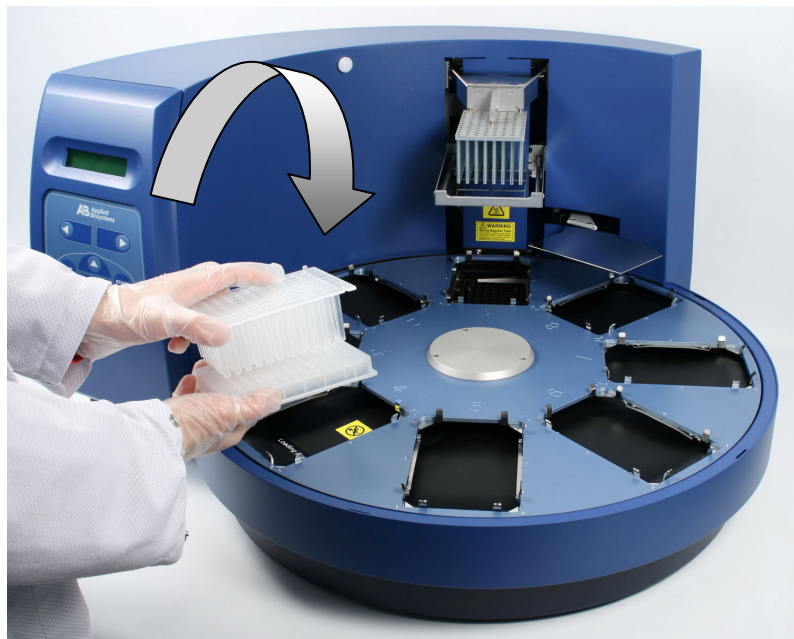
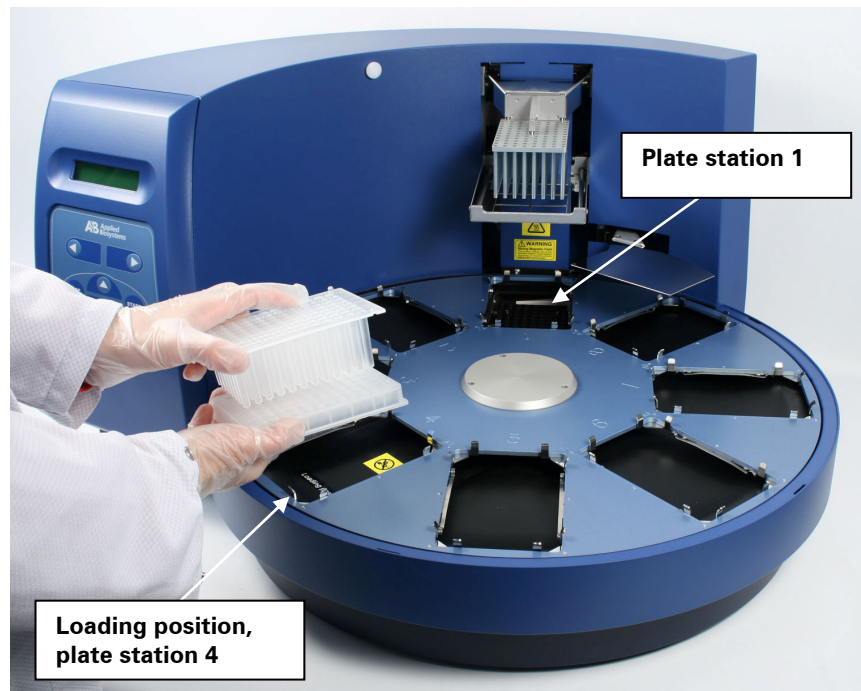
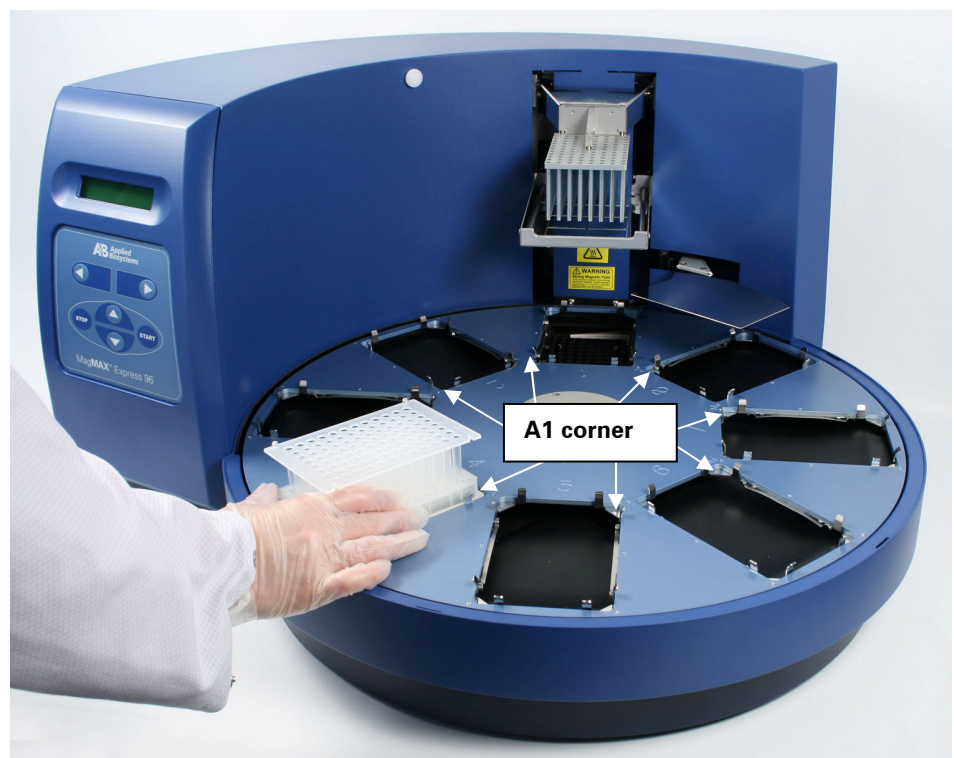
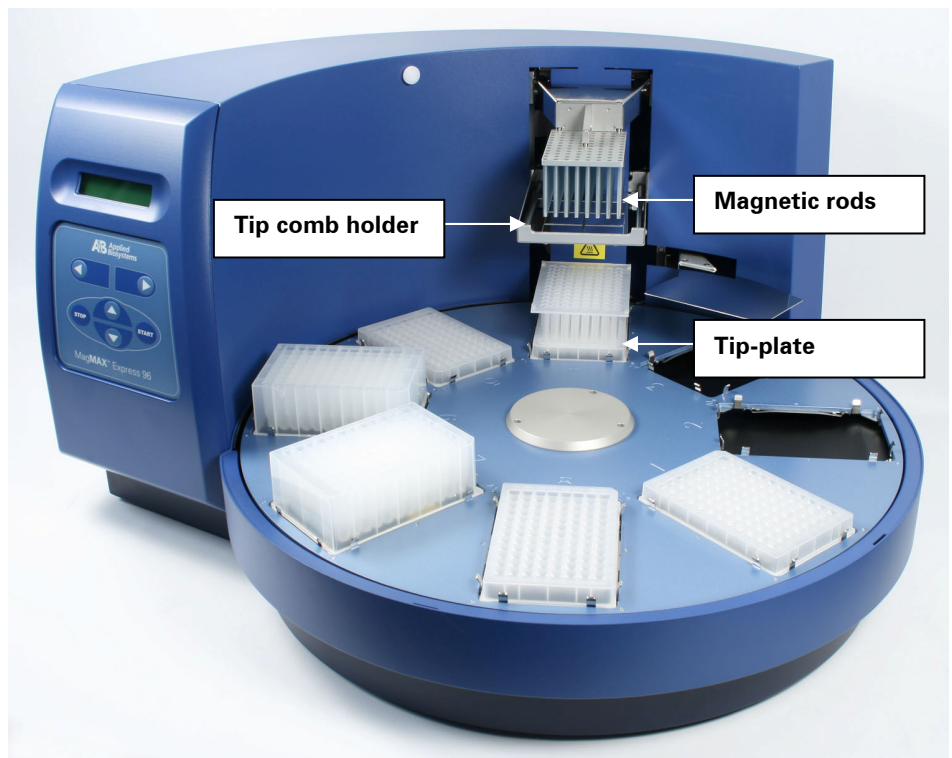

Fig. 6.5 Combining the tip comb and MagMAX™ Express 96 plate (A)
Fig. 6.6 Combining the tip comb and MagMAX™ Express 96 plate (B)
Fig. 6.7 Loading the tip-plate
Fig. 6.9 Plates loaded
2. Unpack the package by separating the two tip combs (Fig. 6.3) and placing one of the tip combs on the MagMAX™ Express 96 plate (= tip-plate) (Fig. 6.5 and Fig. 6.6).
3. Load the plates in the order that the protocol requests (Fig. 6.7 through Fig. 6.9). Place the A1 well of the plate so that it is in the upper right corner. The first A1 row is consequently always in the inner circle. Once you have loaded the requested plates into the plate stations, press **start**. The tip comb always has to be placed manually onto a MagMAX™ Express 96 plate (Fig. 6.5 through Fig. 6.7). The instrument also functions with either one plate or up to eight plates depending on the amount of steps. **Only one tip comb** (Fig. 5.15) **is placed onto a MagMAX™ Express 96 plate (= tip-plate) per run** (Fig. 6.6). Confirm the plate loading by pressing **start**.